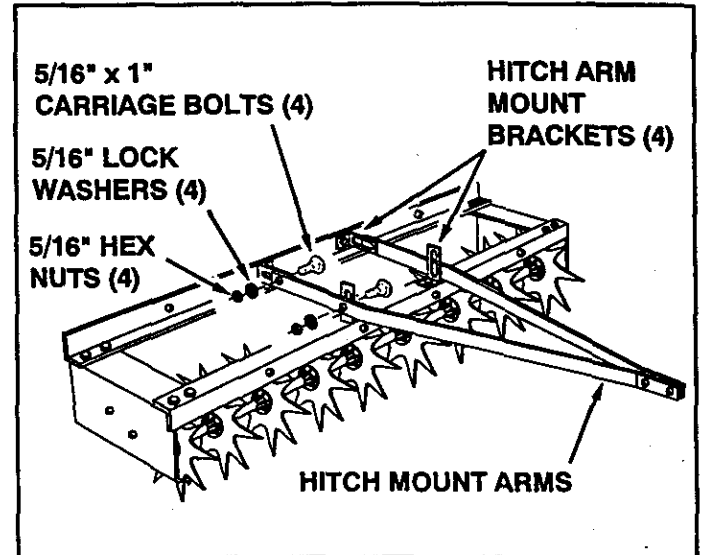
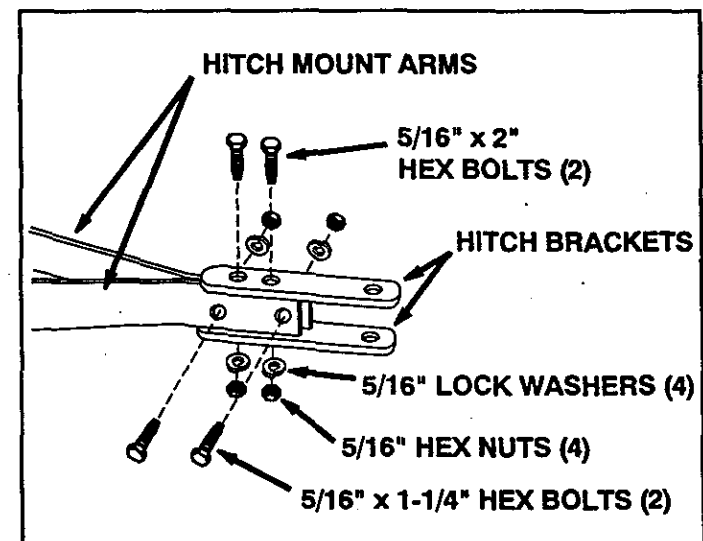

FIGURE 6
FIGURE 7
- Assemble the hitch mount arms to the four hitch arm mount brackets as shown in figure 6. Use four 5/16" x 1" carriage bolts, four 5/16" lock washers and four 5/16" plain hex nuts. Do not tighten yet. See figure 6.
- Assemble the ends of the hitch mount arms together using two 5/16" x 1-1/4" hex bolts, two 5/16" lock washers and two 5/16" plain hex nuts as shown in figure 7. Do not tighten yet.
- Assemble the hitch brackets to the hitch mount arms using two 5/16" x 2" hex bolts, two 5/16" lock washers and two 5/16" plain hex nuts as shown in figure 7. **Tighten all loose fasteners** which were assembled in figures 6 and 7.